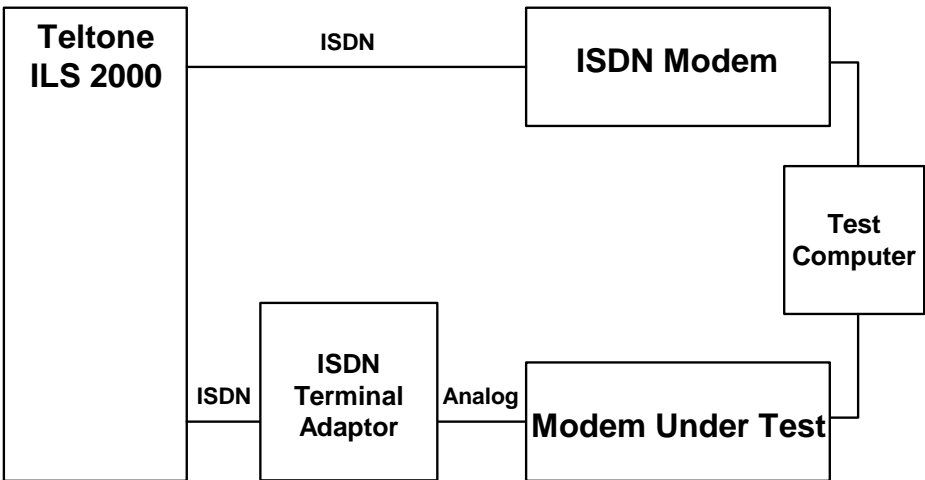

Figure 49. V.90 Modem Functional Test Connection
V.90 modems must be tested with a digital modem, such as the USR Courier I. If a digital modem isn't used as illustrated in Figure 49, the highest connection speed a V.90 modem will support is 33.6 kbps. A call can be placed or received in either direction at the speed set in the modems. A test script must be written for a computer to control the dialing, monitor the call progress, send a file, and compare the received and sent files. Figure 49 illustrates this test configuration.